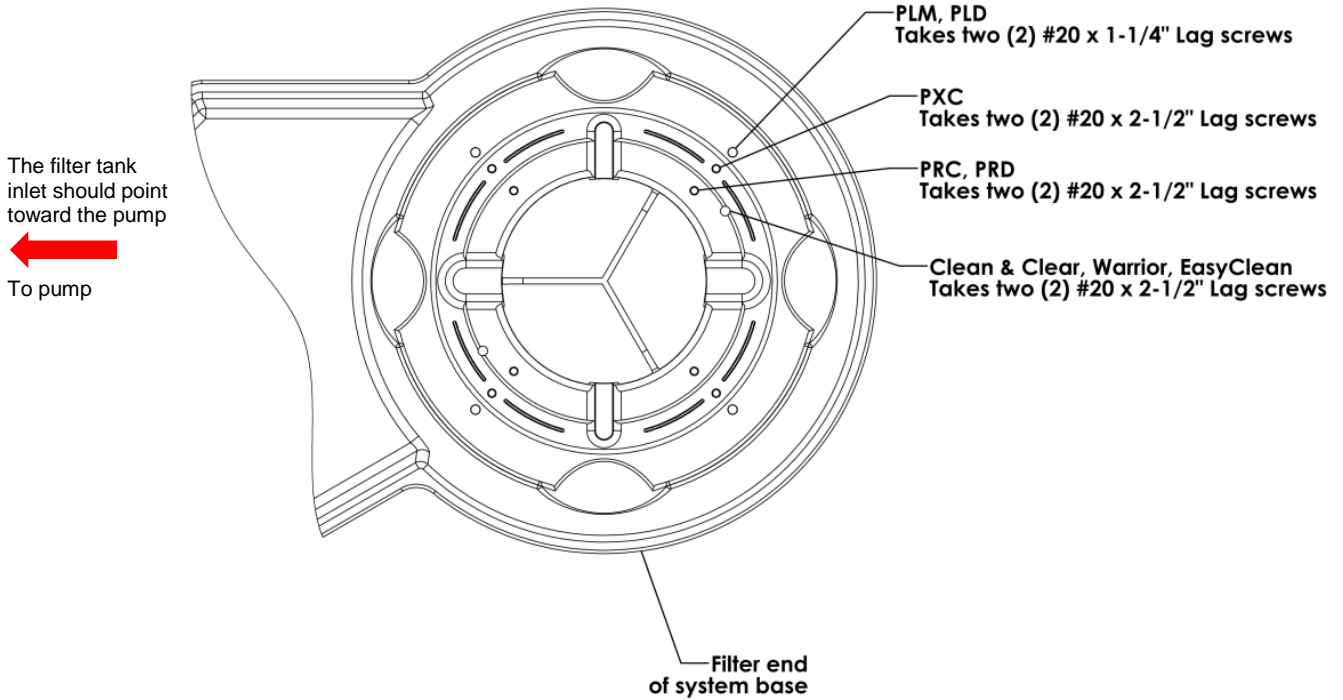

Figure 6
The system base provides screw holes to align with the screw holes* in the foot of the filter tank. The system base supports the following filter models: PLM, PLD, PXC, PRC, PRD, Clean & Clear®, Warrior®, EasyClean™ filters (see Figure 6).
2. Refer to Figure 6 on the previous page, and to the table below to determine the correct screw for the hole pattern. **Note:** Each filter model will use *either* the #20 x 1-1/4" long or 2-1/2" long Lag screws, never both.